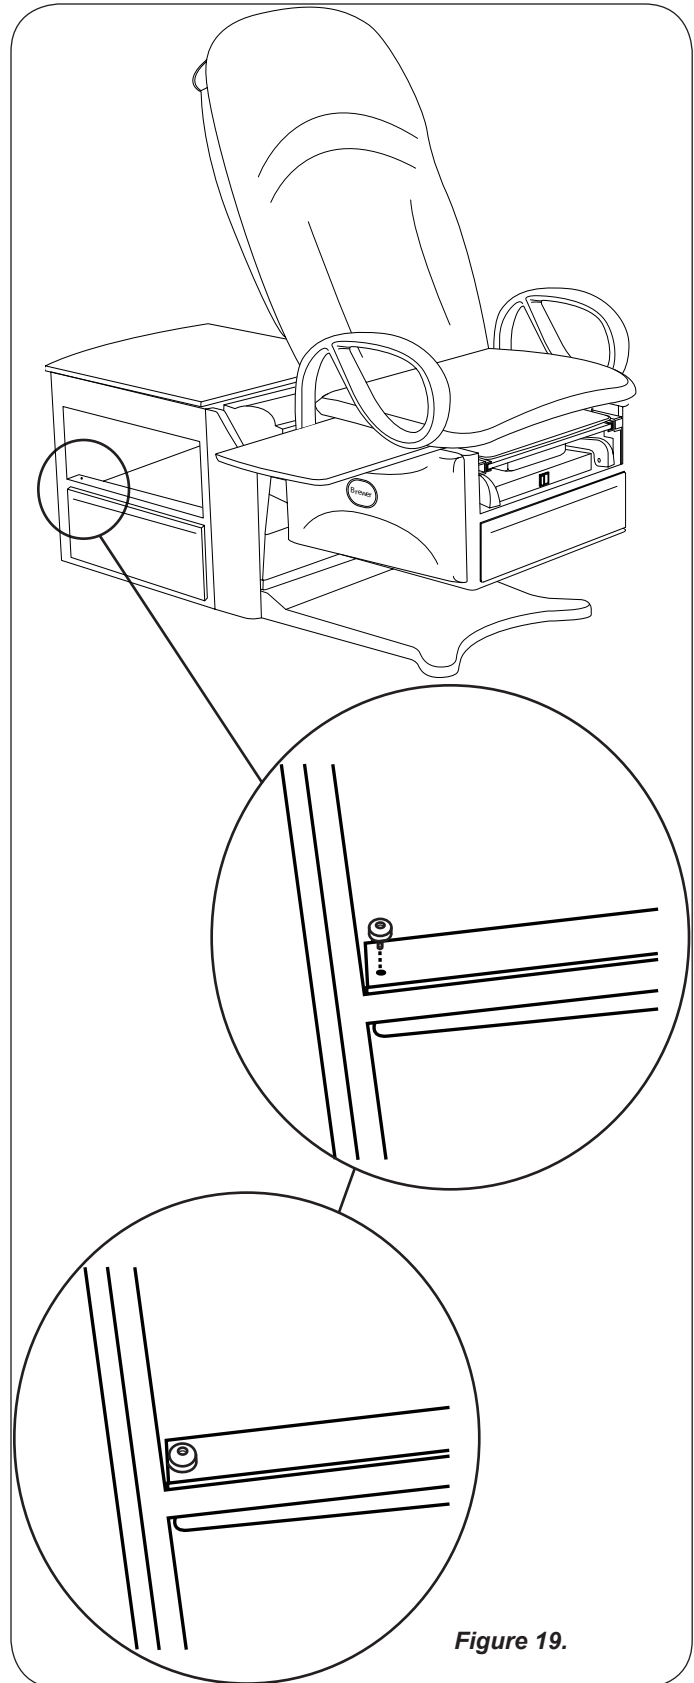

Figure 19.
Two storage drawers are built into the table cabinet for supplies (Figure 19). The drawers may be pulled out from either side of the table.
The Brewer Access High-Low Exam Tables are supplied with two drawer stops for the side pass through drawers. If you wish to restrict the drawers to opening only on one side, simply install one drawer stop per drawer on the opposite side the drawer is to be opened (See Figure 19.)
2. Screw in one drawer stop, one for each drawer on opposite side of cabinet. (Figure 19).